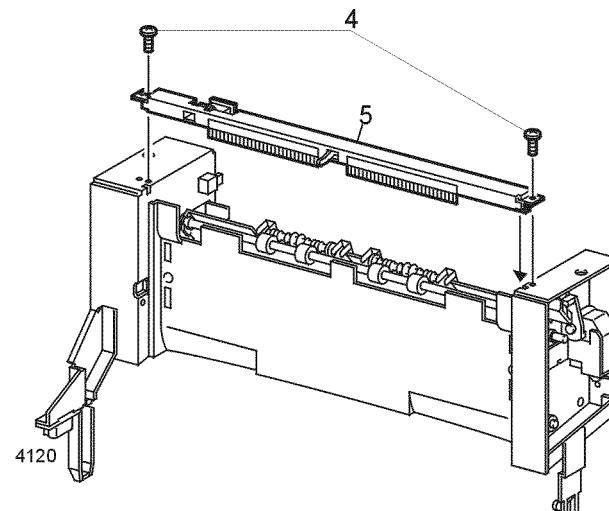

Figure 1 Eliminator Assembly
4. Remove the two screws that secure the Eliminator Assembly to the OCT (Figure 1).
5. Remove the Eliminator Assembly (Figure 1).